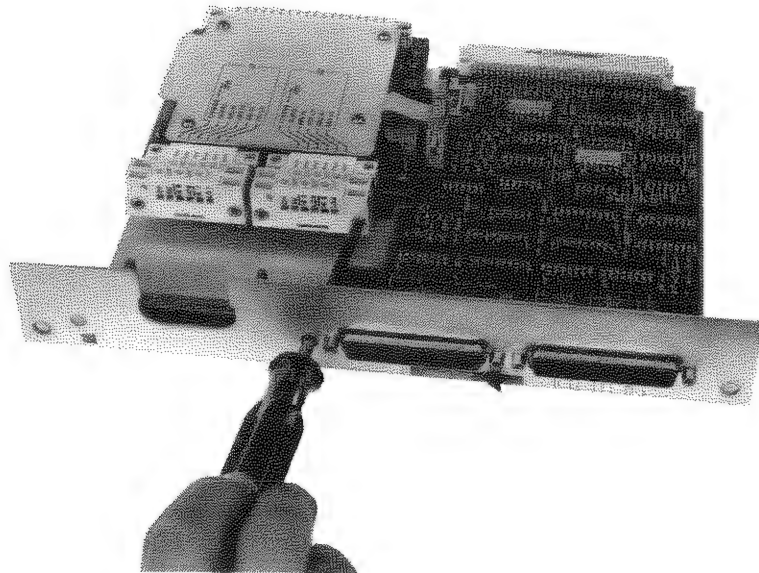

Figure 15. Removing Outer Screws of J1 and J2.
- d. To loosen the outer screws of connectors J1 and J2, the screwdriver must be inserted through the holes on each side of the clamp slot. In each case, the screwdriver will approach the screw head at a slight angle. See Figure 15. Loosen the screws and remove the connectors for cable connection.